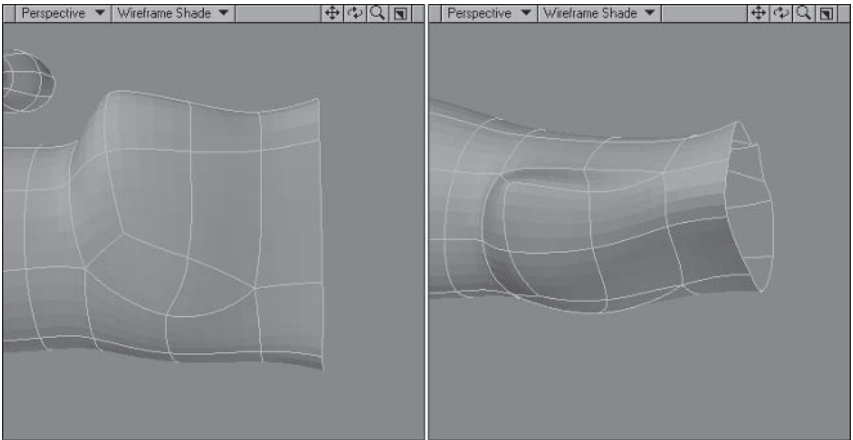

Figure 5.4-31. Adjust the points.
9. Select the inner points of the beveled edge and adjust them to match Figure 5.4-31.